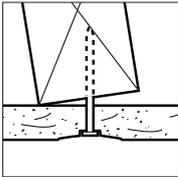

Fig. 11
**Cause:** Framing members have not been properly squared with plates, presenting angular nailing surface (Fig. 11). When panels are applied, there is danger of puncturing paper with fastener heads or of reverse twisting of member as it dries out, with consequent loosening of board and probable fastener pops. Warped or wet dimension lumber may contribute to deformity.